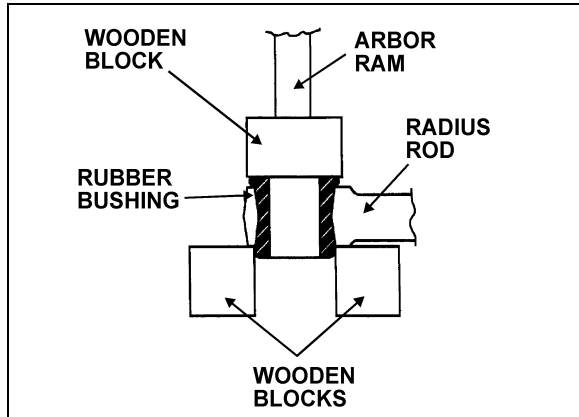

FIGURE 48: RADIUS ROD BUSHING INSTALLATION 16012
2. Safely support the radius rod, and place new bushing on top of the radius rod end (Fig. 48).
- Lightly spray the radius rod support with water. Place the radius rod end over the radius rod support (Fig. 48).